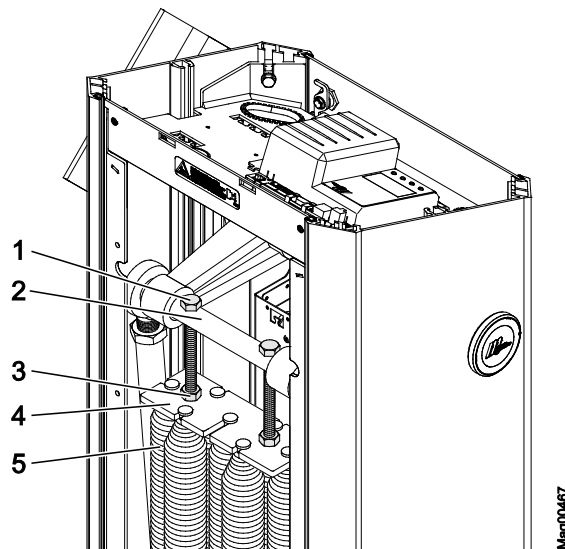

Fig. 48: Setting balancing springs Access XXL
6. Evenly loosen the M16 nuts (Fig. 48, item 3).